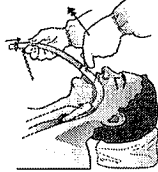

Figure 4
3. Grip the handle firmly and lift the device using the handle to draw the larynx forward by a few millimetres to increase seal pressure and optimize alignment of the trachea and ETT axes (Fig.4).